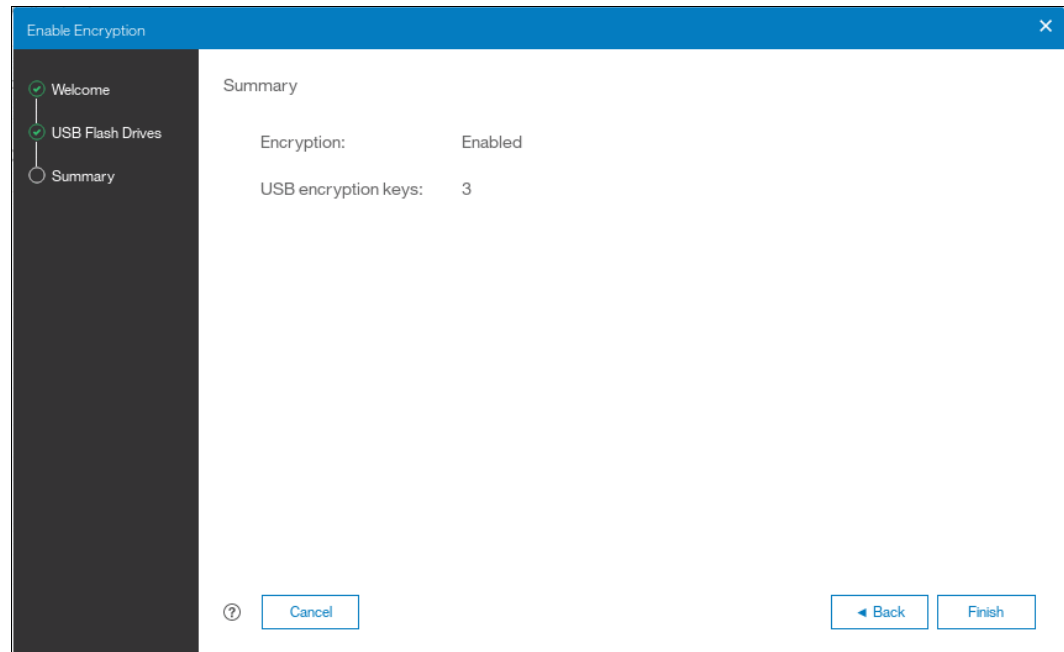

Figure 13-27 Commit the encryption enablement
5. The number of keys that were created is shown in the Summary tab, as shown in Figure 13-27. Click **Finish** to finalize the encryption enablement.